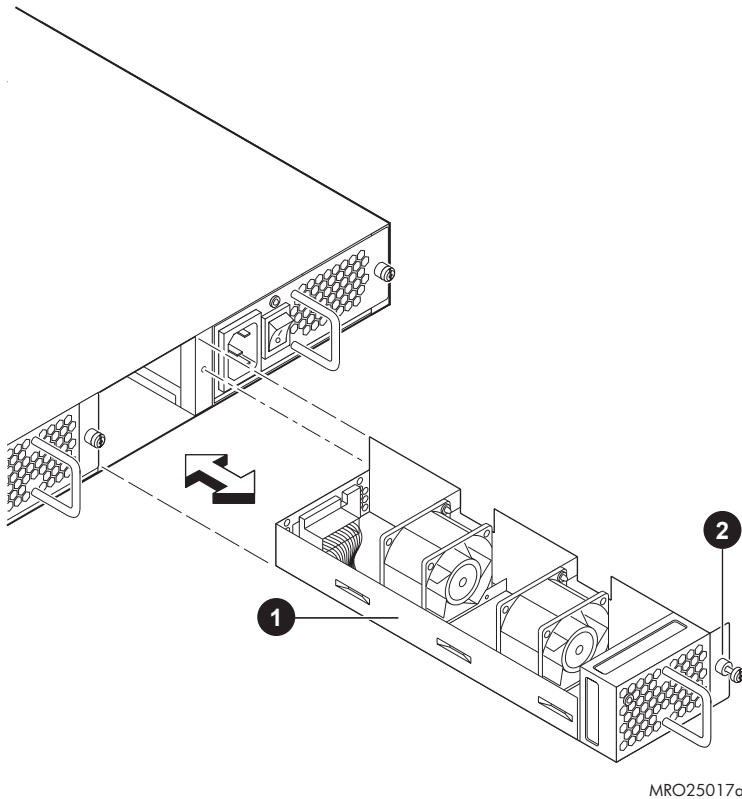

Figure 27 Inserting the fan assembly
- a. Orient the new fan assembly as shown in Figure 27, with the captive screw on the right.
Table 25 identifies fan assembly components in Figure 27.